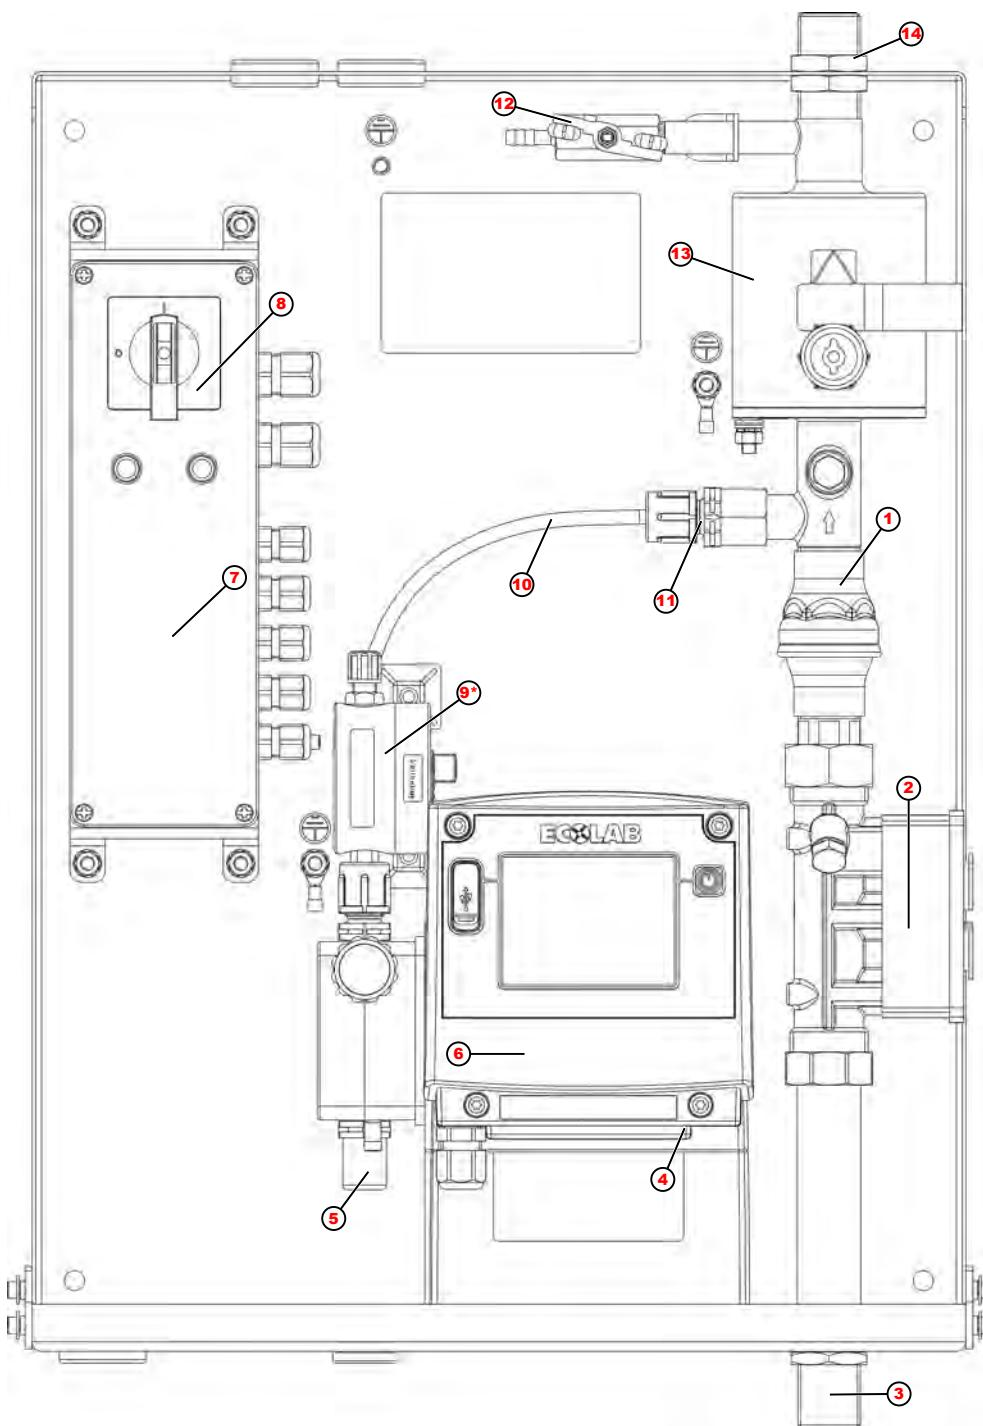

Fig. 4: Connection overview: Lub-O-Mat Eco
(☞ *Chapter 5.2 ‘Connection overview’ on page 36, Fig. 4, pos. 9*).